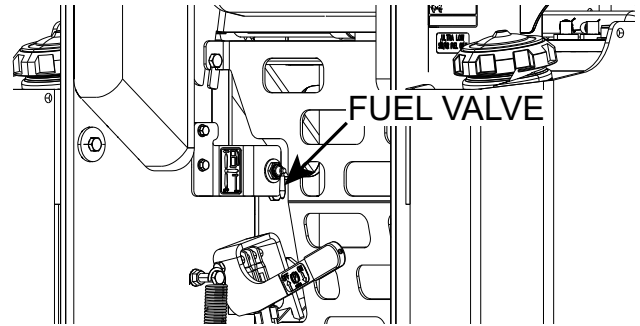

Figure 4-15. Fuel Valve
1. Be sure the fuel shutoff valve, located on the operator's platform, is completely open (left or right fuel tank). See Figure 4-15.